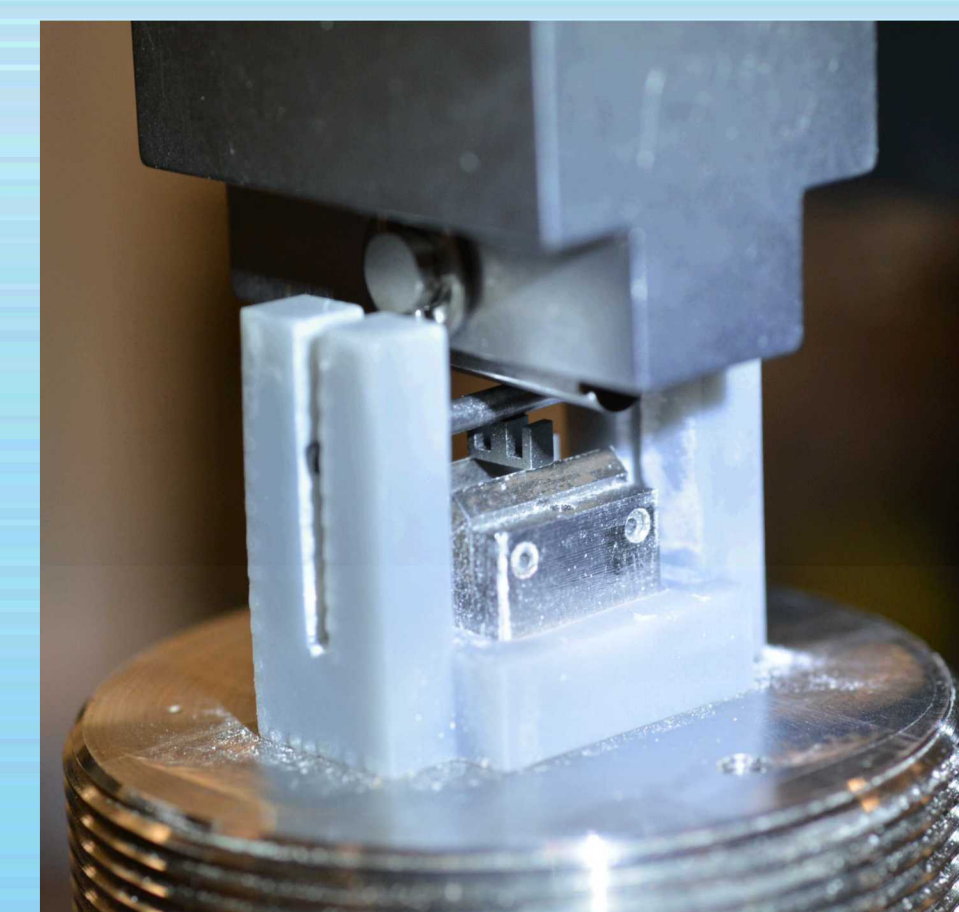

Figure 3. Experimental set-up of specimen in orientation 2.
- A set of specimens from each vendor was tested in three point bending (Fig. 3).